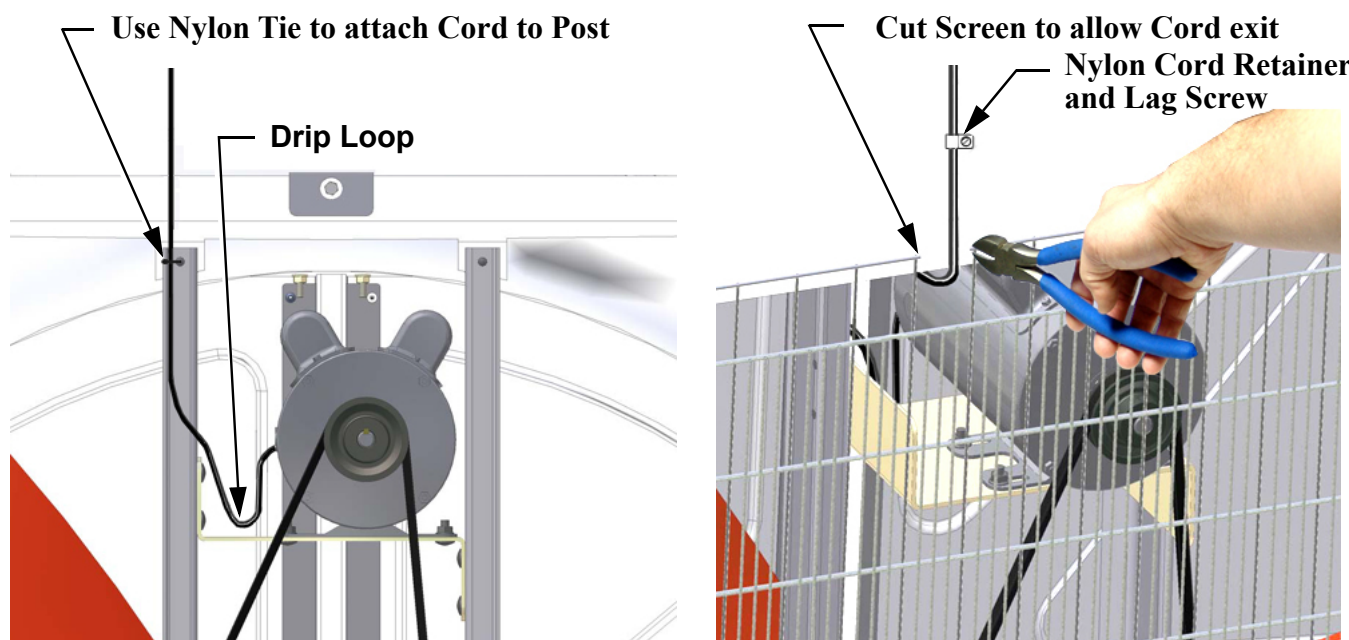

Figure 13. Wiring / Cord Routing
3. Route the motor cord (not supplied) toward the upper left corner of the Fan and attach the cord to the Motor Mount using the Cable Tie—included in the hardware package. Leave a Drip Loop so that moisture collecting on the Cord will not run down and damage the Motor (**See Figure 13**). Cut out a section of the Screen where you want the Cord to exit the Fan, so that the Screen can be removed without the Cord getting in the way (**Figure 13**). Use the Nylon Cord Retainer and Lag Screw provided to secure the Cord to the Wall outside of the Fan. (**Figure 13**)
- Check Sheaves for wear. Replace if Sheave groove is worn. (See Figure 13 to the Right).